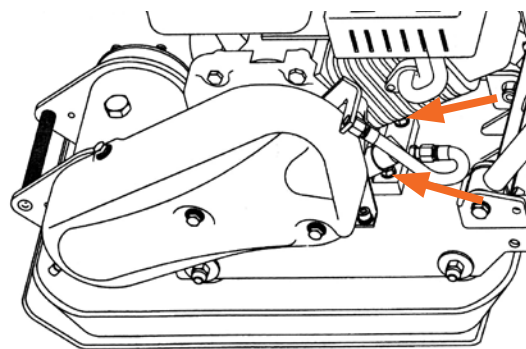

Figure 9
1. Loosen 4 engine mount bolts, 2 on each end of the engine block, just enough to move the engine slightly, but do not remove the bolts entirely (see Figure 9).
1. Loosen 4 engine mount bolts on the plate compactor just enough to move the engine slightly, but do not remove the bolts entirely (see Figure 9).